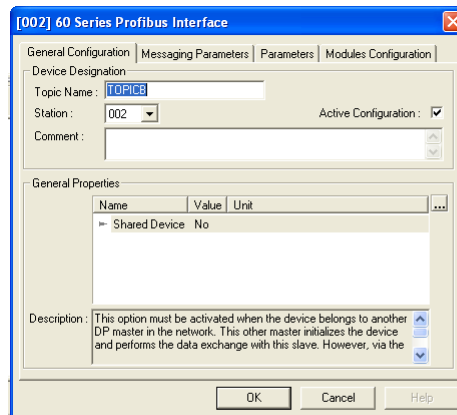

Figure 3
- Insert it into the configuration by pressing the black arrow "Insert in Configuration" (which appears above the device library list when selecting a device model). The window shown in *Figure 3* is obtained.
- In the "General Configuration" tab, enter the name (or keep the one assigned by the software) and the station number on which the module is connected. The chosen station must be the same as that physically configured on the module. If you do not know it, you can ask the configuration manager to find it for you. To do this, exit the window of *Figure 3* and in the "Device Library" list right click on the "Network Detection" tab and then select the "Read Network Detection" option. When network detection has been completed, the numbers of the connected stations will be displayed. All you have to do is go back to the "General Configuration" tab of the window of *Figure 3* and complete the configuration of the stations.